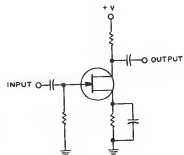

Figure 3-89
19. The circuit of Figure 3-89 is a:
20. The circuit shown in Figure 3-89 has a: